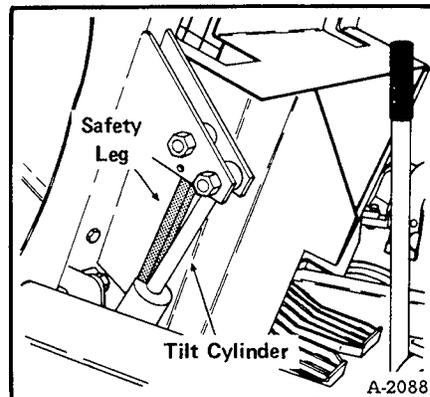

Fig. 1-11 Safety Leg
(3) Remove rear pins from both sides of enclosure. (Momentarily activate the cab tilt switch if pins are hard to remove.)
(4) Activate tilt switch and tilt the enclosure. Check control levers when tilting to make sure that they are clear.
(5) Lower safety leg above tilt cylinder until it is against the cylinder rod. Lower enclosure until its weight is supported by safety leg (Fig. 1-11).